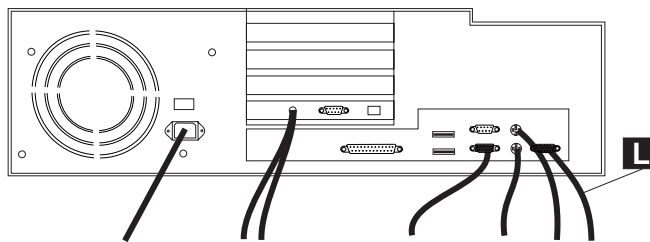

Figure 6-1. Display Connection to the NAS
2. At the rear of the Nways Switch administration station, connect the display signal cable **L** (refer to Figure 6-1).